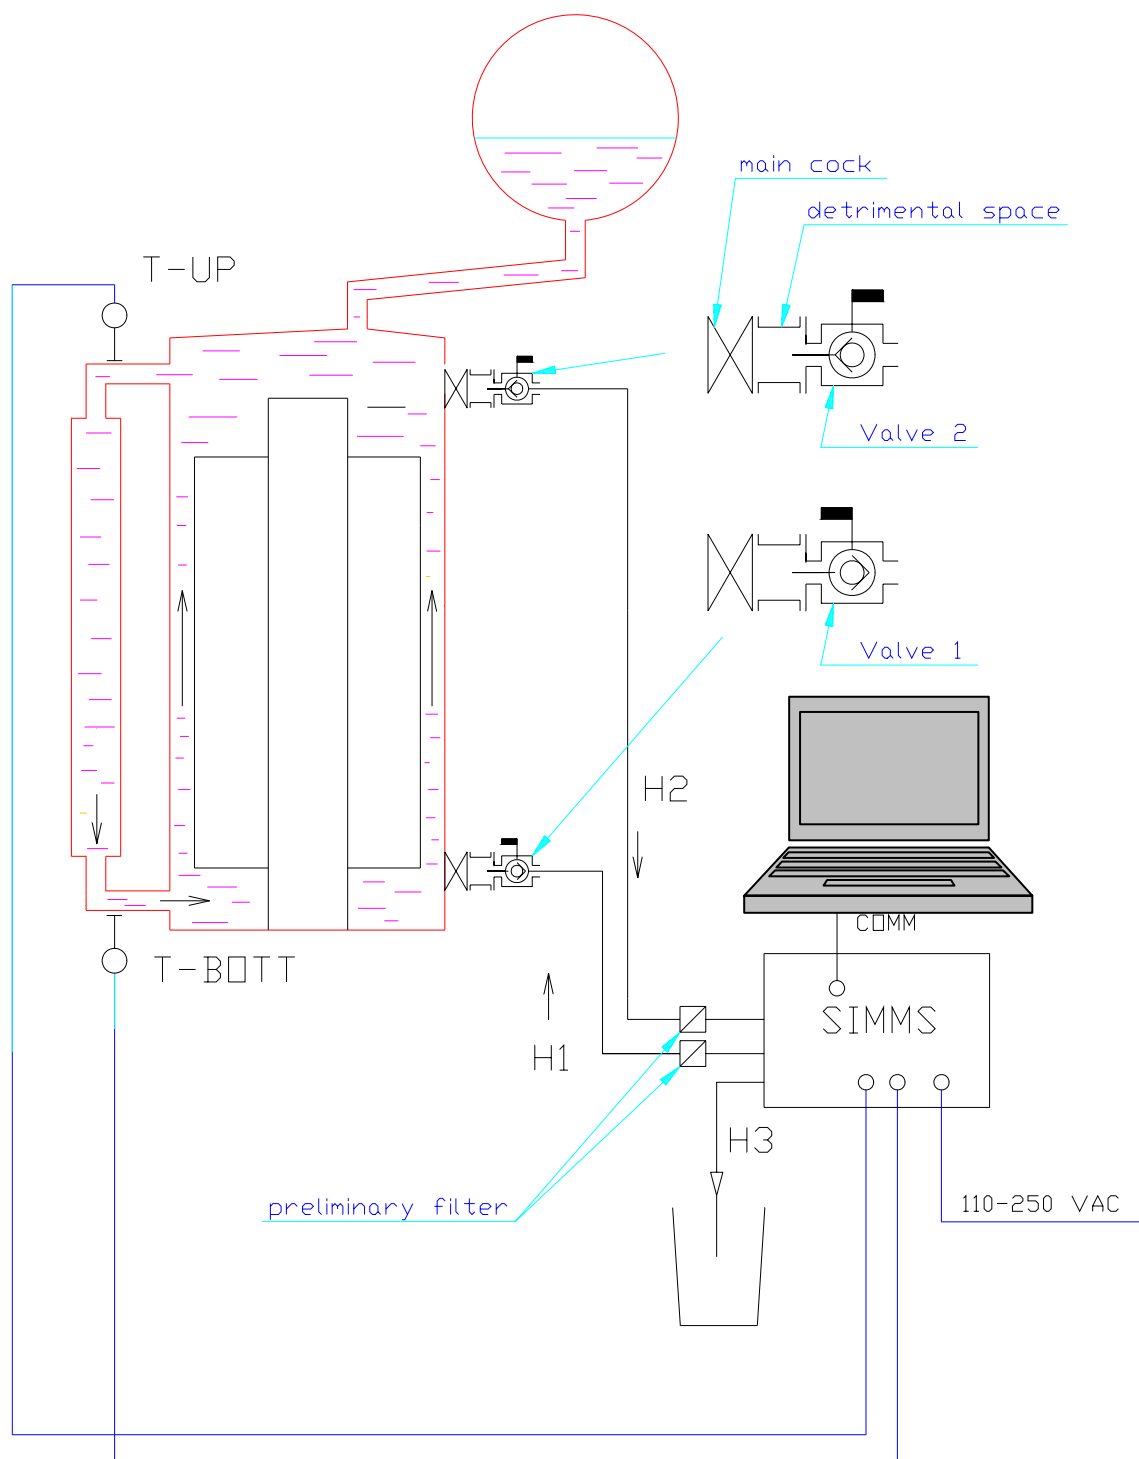

Fig.4 Connection Diagram **SIMMS 2P UD** – oil flow direction **Up-Down**
- Connect the SIMMS to the lap-top (see Fig.4).
Rem . The installation procedure is the same for status **SIMMS 2P DU** (oil flow direction **Down –Up**) and the status **SIMMS 2P UD** (oil flow direction **Up – Down**) - with the exception of the settings of the both Valves 1 and 2 - See Fig.4.